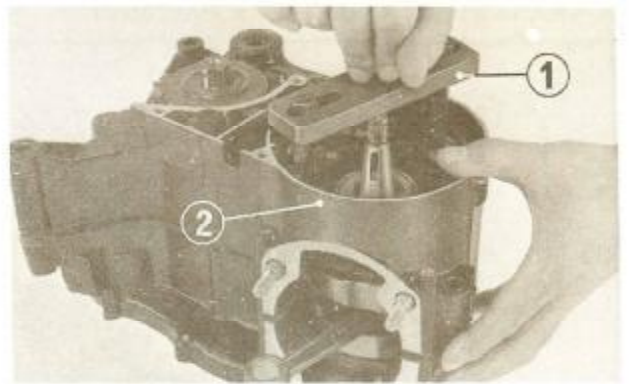

Fig. 3-34 (1) Crankcase disassembly tool
10. Bolt the crankcase disassembly tool (tool no. 07937-3600000) to the left crankcase as shown in Fig. 3-34. Turn the screw of the tool against the end of the crankshaft to separate the cases.